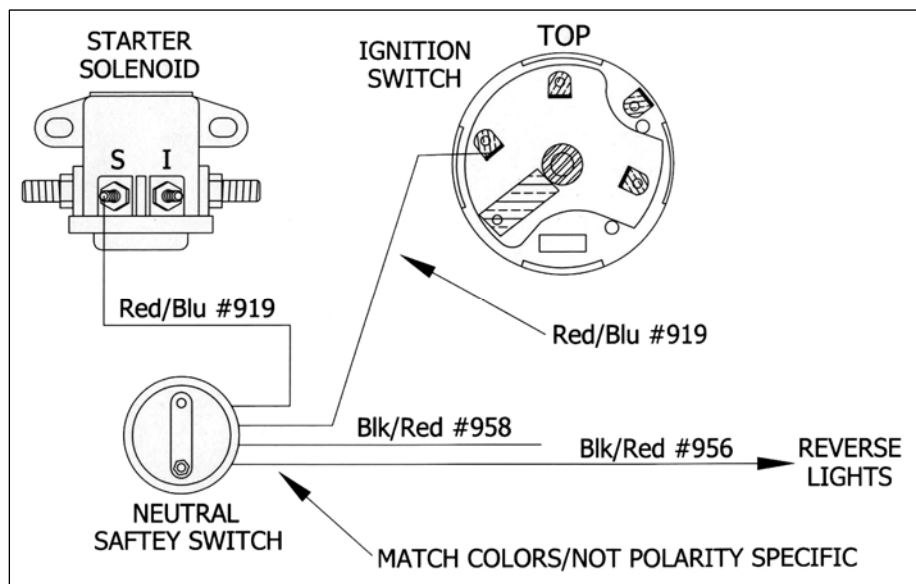

Figure 7-7 NEUTRAL SAFETY SWITCH
- 7.3.5** Neutral Safety/Backup Light Switch wire #'s 958, 956 and 919 (2 wires) all breakout from the firewall in the ENGINE SECTION. #958 is the power source to the switch for the backup lights and #956 is the wire connected to the actual bulbs. Wire **IGNITION SWITCH START #919** comes from the start terminal on the Ignition Switch and provides the start signal to the Neutral Safety switch. Wire **STARTER SOLENOID #919** carries the start signal from the Neutral Safety switch to the Starter Solenoid. **See Figure 7-7.**